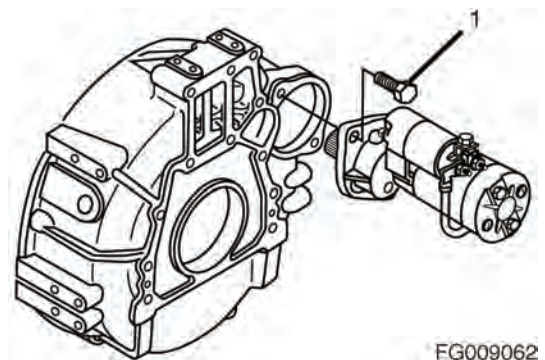

Figure 374
2. Reinstall the starter mounting bolts (1, Figure 374). Tighten the bolts to specification. See "Tightening Torques For Standard Bolts And Nuts" on page -48.